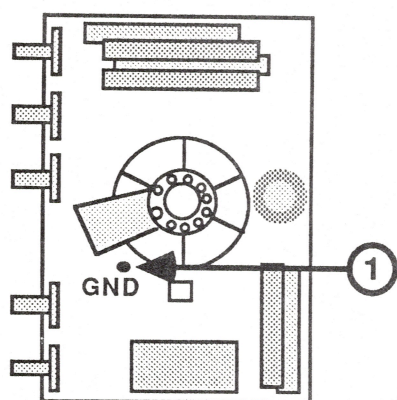

FIGURE 10
5. Turn the socket board so that you can see the component side, as shown in Figure 10.
6. Disconnect the gray CRT ground strap from its connection (Figure 10, #1) on the CRT socket board.